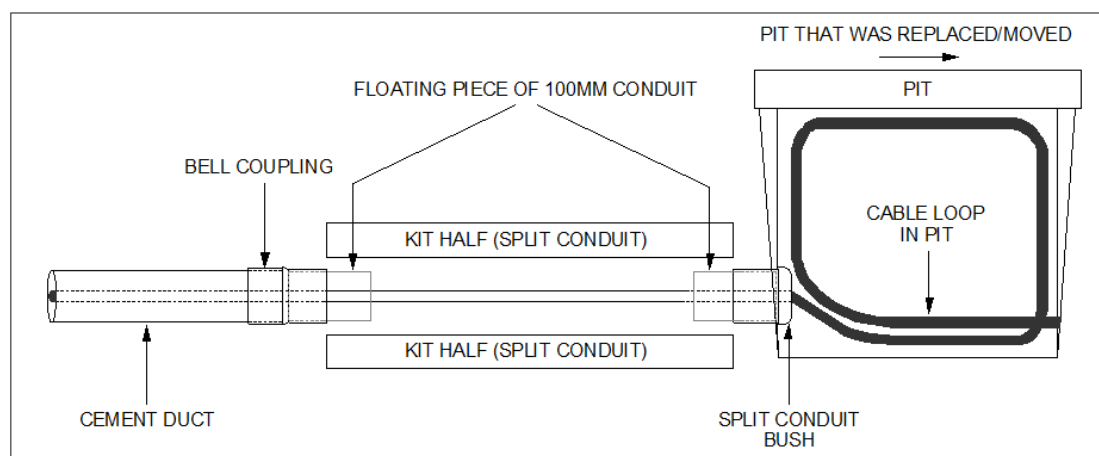

Figure 9 - Conduit extension to Pit.
- a) Extending the conduit to a pit. Refer to Figure 9.
The conduit repair kit must attach to a piece of nominal size conduit. The 100 mm long floating conduit-piece (refer Figure 9) serves this purpose and bridges between the repair kit and a split conduit-bush fitted to a pit. See Figure 9.